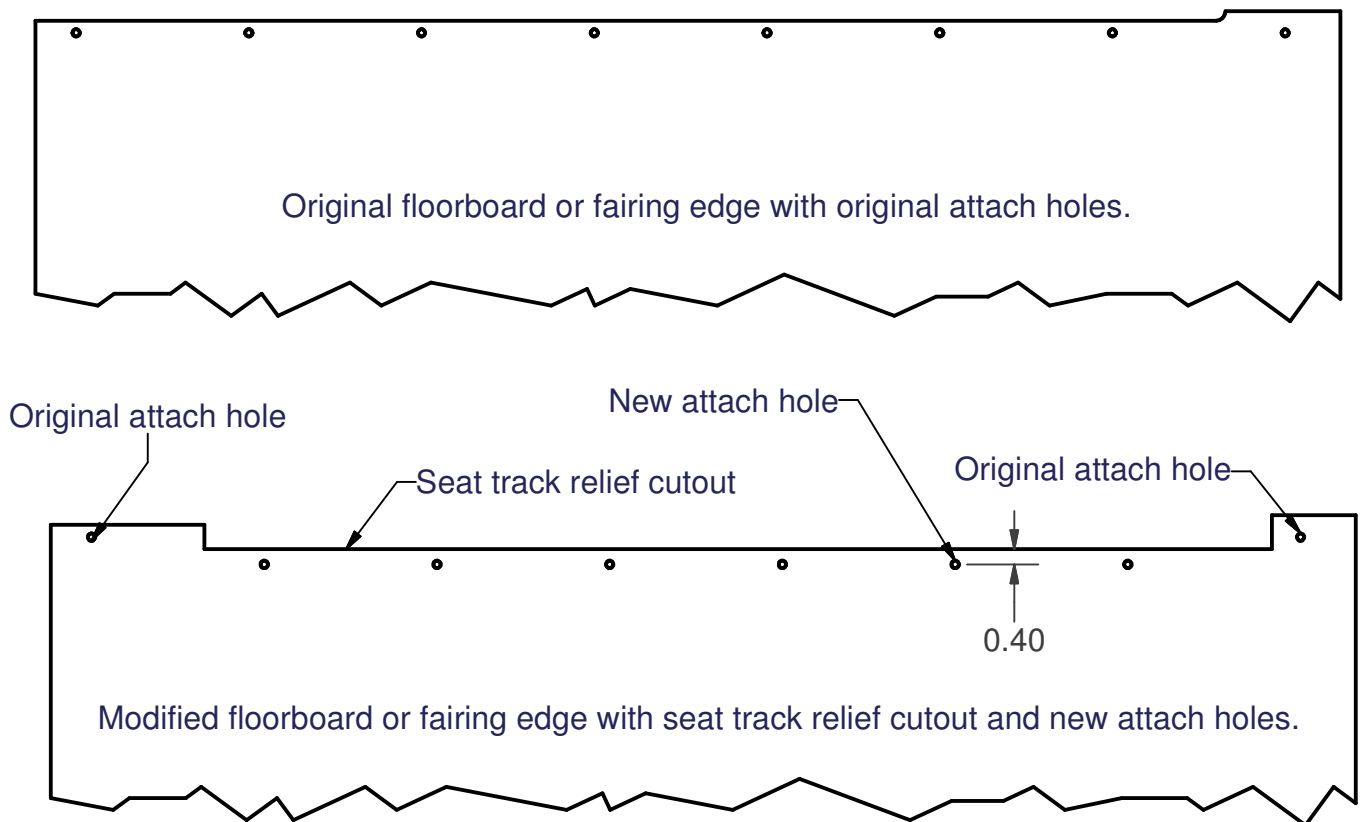

Figure 4: Floorboard and fairing clearance cutout requirements.
20. Trim the floorboard panels to relieve the interference between the floorboard panels and the new seat tracks. Refer to Figure 4 for guidance.
21. Drill fastener holes using a #2 drill bit through the modified floorboards and the floorboard attach flanges (P/N MC277) as illustrated in Figure 4.
22. Trim the floorboard support fairing to relieve the interference between the floorboard support fairing and the outboard seat track. Refer to Figure 4 for guidance.
23. Drill rivet holes through the modified floorboard support fairing and the fairing attach flange (P/N MC278) using a #30 drill bit as illustrated in Figure 4.